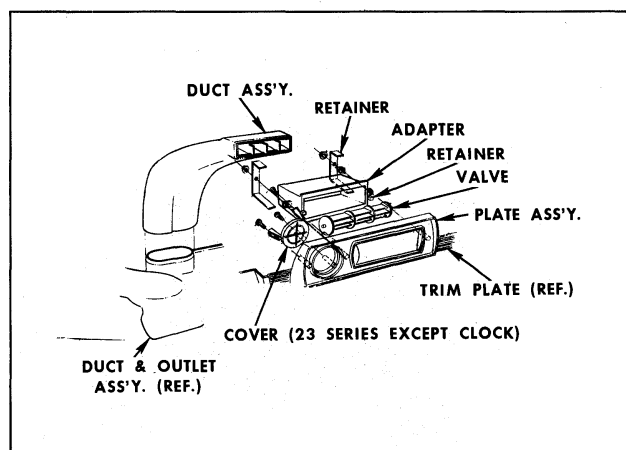

Fig. 4-13 Center Outlet Assembly
4. Remove two center outlet assembly attaching nuts (Fig. 4-13).